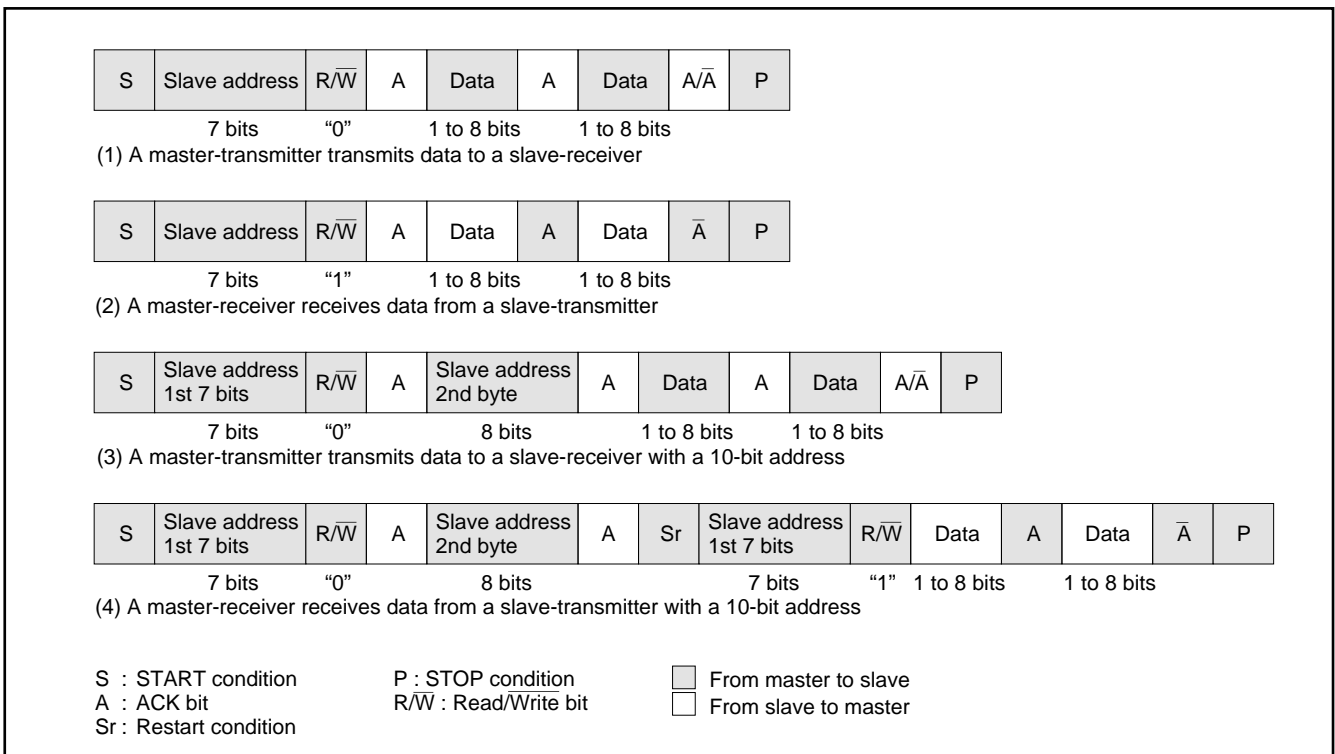

Fig. 22. Address data communication format
① 7-bit addressing format
To meet the 7-bit addressing format, set the 10BIT SAD bit of the I2C control register (address 00DA16) to "0." The first 7-bit address data transmitted from the master is compared with the high-order 7-bit slave address stored in the I2C address register (address 00D816). At the time of this comparison, address comparison of the RBW bit of the I2C address register (address 00D816) is not made. For the data transmission format when the 7-bit addressing format is selected, refer to Figure 22, (1) and (2).
② 10-bit addressing format
When the first-byte address data matches the slave address, the AAS bit of the I2C status register (address 00D916) is set to "1." After the second-byte address data is stored into the I2C data shift register (address 00D716), make an address comparison between the second-byte data and the slave address by software. When the address data of the 2nd byte matches the slave address, set the RBW bit of the I2C address register (address 00D816) to "1" by software. This processing can match the 7-bit slave address and R $\bar{W}$  data, which are received after a RESTART condition is detected, with the value of the I2C address register (address 00D816). For the data transmission format when the 10-bit addressing format is selected, refer to Figure 22, (3) and (4).